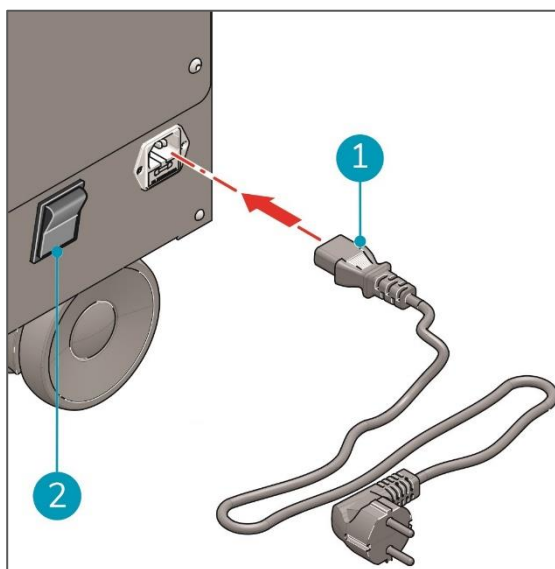

Figure 8
1. Insert the power cable into the power cable socket of the ICon Pro and the power plug into the wall socket (Figure 8, pos. 1).
2. Press the main power switch to turn on the power (Figure 8, pos. 2).
3. Press the main power switch (Figure 8, pos. 2) again to turn off the power.
11. Press the main power switch to turn on the power (Figure 8, pos. 2).